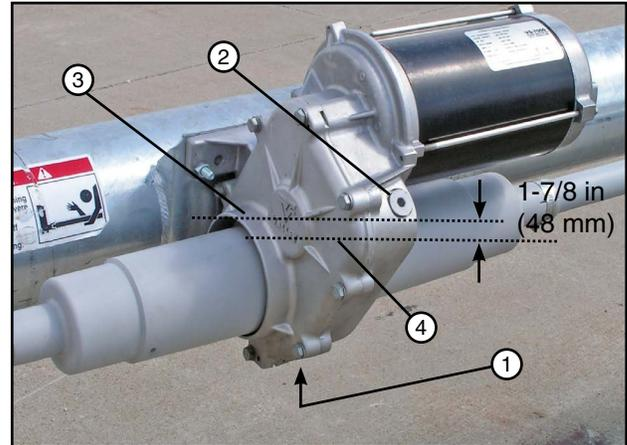

Figure 65-1 1. Drain Plug 2. Fill Plug 3. Oil Level 4. Bottom of Fill Plug Hole
1. Remove the drain plug and the fill plug. Drain the oil and install the drain plug. See Figure 65-1.
2. Fill the gearbox 1-7/8 in (48 mm) from the bottom of fill plug hole with Valley Gear Lube. The capacity of the gearbox is approximately 44 oz (1.3 liter). See Figure 65-1.